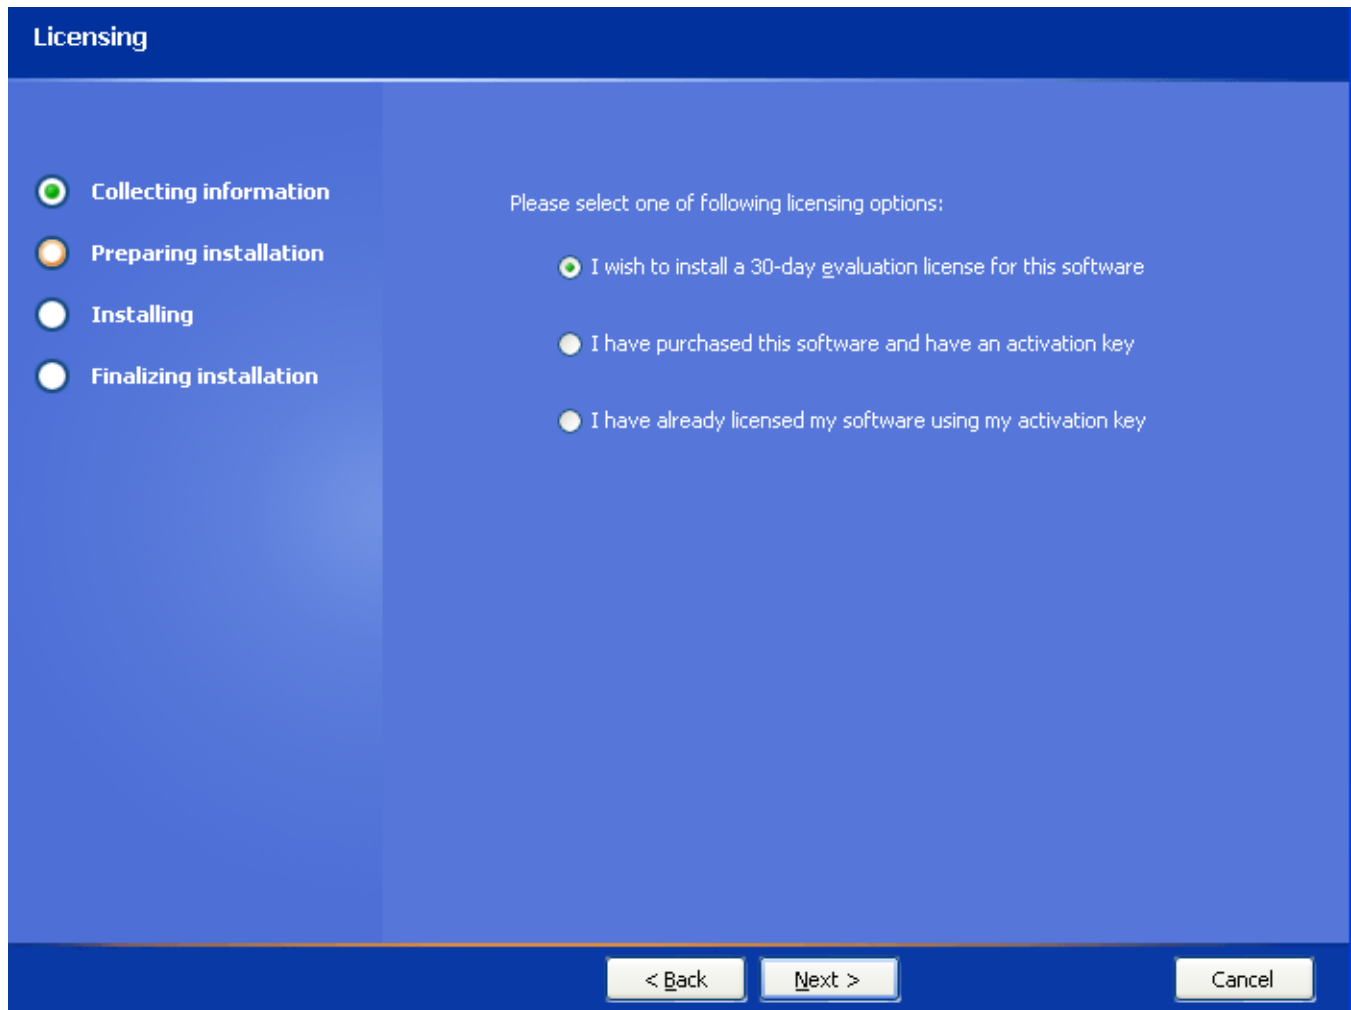

Figure 86 - Licensing Screen
17. Click on the **Next** button to accept the default password. The **Licensing** screen (Figure 86) appears.